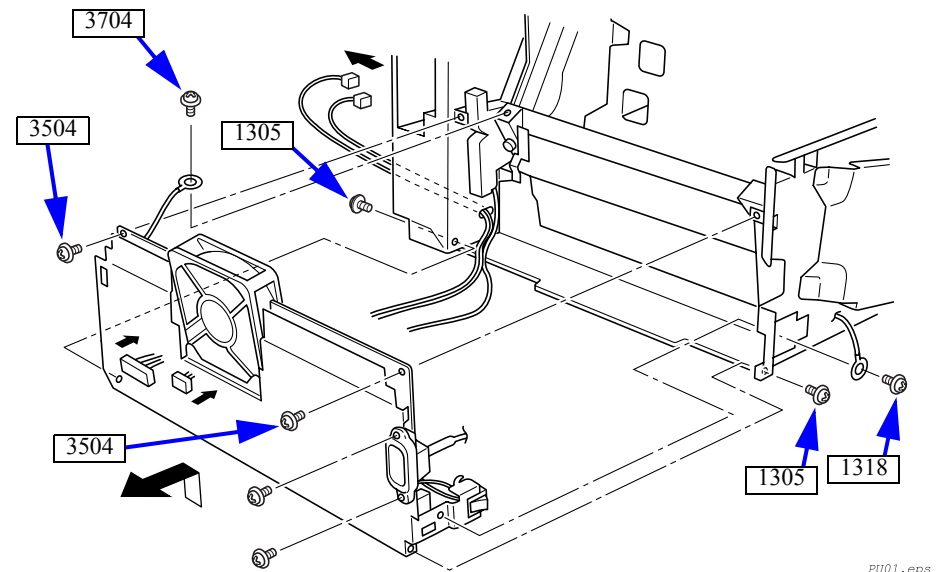

Figure 4-24. Power Unit Assy Removal
2. Pull the connectors (CN807 and CN813) out of the controller board, and release the wiring from the cord holder. (See Figure 4-24)